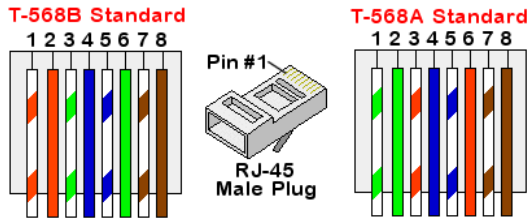

Figure 39: Standard cable wiring
- c. Insert the eight wires into an RJ45 connector, as described *Figure 39*.
- e. Connect the Ethernet connector to the RJ45 port on the communication board as shown in *Figure 39*.